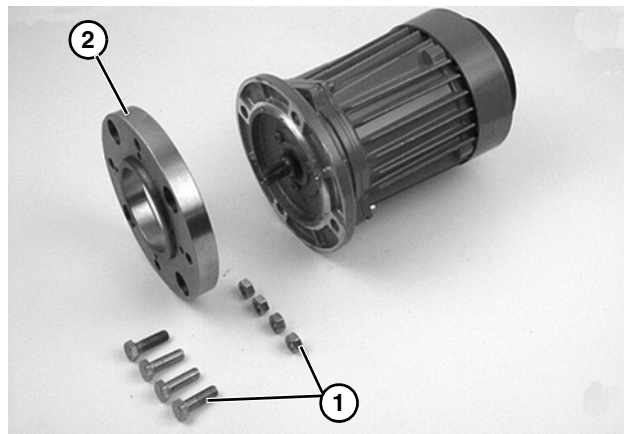

Figure 27
4. Remove four (4) screws and nuts (Figure 27, item 1). Remove adapter flange (Figure 27, item 2).
5. Install adapter flange (**Figure 27, item 2**) on new motor: Install screws and nuts (**Figure 27, item 1**) and tighten.